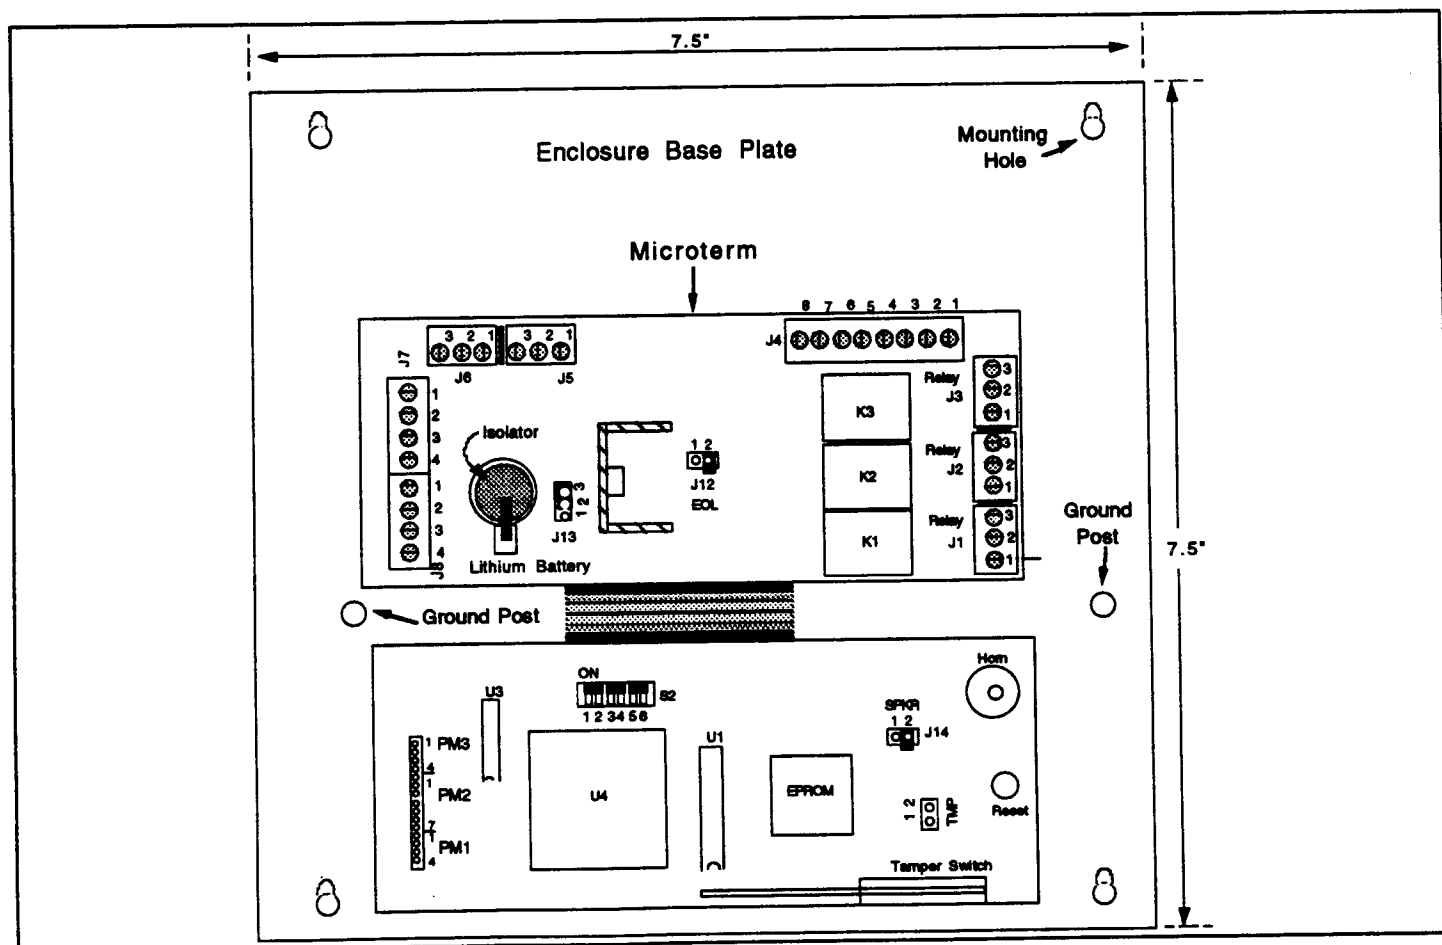

Figure 3 - Microterm Enclosure Dimensions
1. Drill four holes corresponding to the four mounting key holes as illustrated in Figure 3, Microterm Enclosure Dimensions.